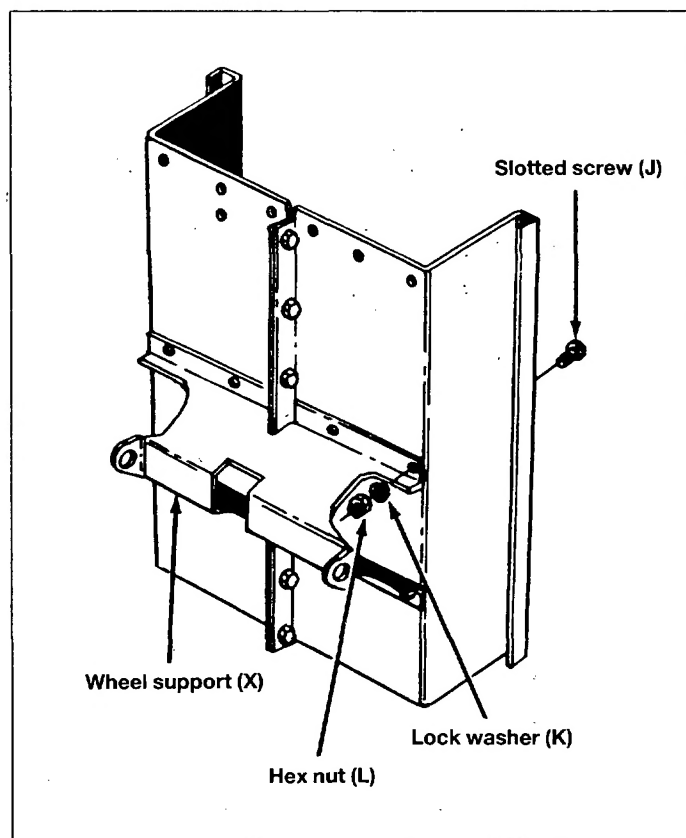

Fig. 4
5. Position the wheel support (X) in place on the bottom of cart. See figure 4.
6. Assemble wheel support to cart with eight slotted head screws (J), lock washers (K) and hex nuts (L). See figure 4. Heads of screws go to the inside of cart and should be tightened at this time.